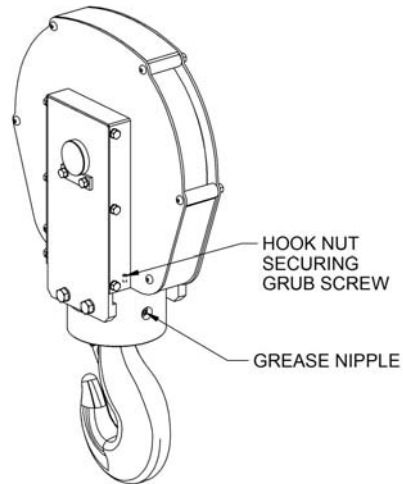
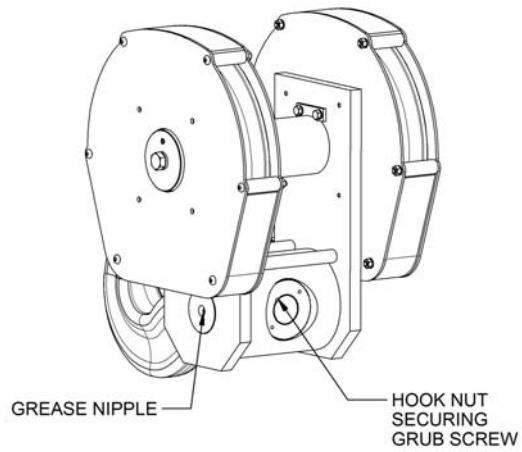

Figure 52 – 2 Fall Bottom Block, Hook Nut, Grubscrew, Grease nipple
Figure 53 – 4 Fall Bottom Block, Hook Nut, Grubscrew, Grease nipple
- Check the security of the hook nut and it's securing grub screw, for 4 Fall remove cap to inspect see Figure 52. For 2 and 6 fall rotate the hook up to inspect, see Figure 53.
- Grease the hook thrust bearing as required in the lubrication schedule (see section 5.7.1 & Figure 52).